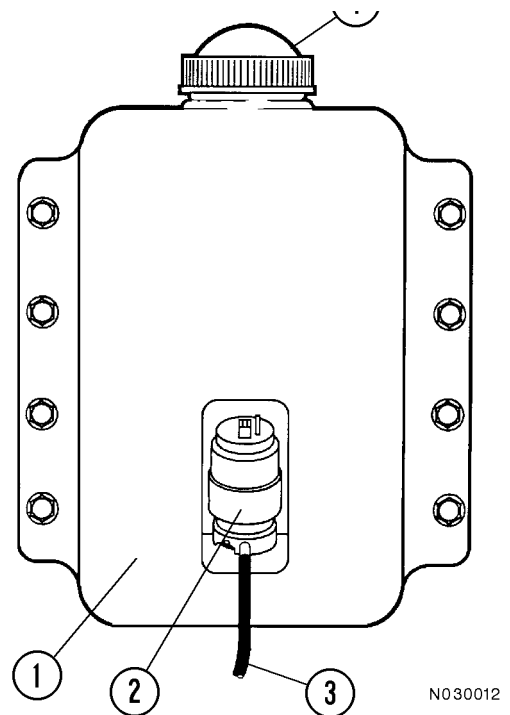

FIGURE 3-5. WINDSHIELD WASHER FLUID RESERVOIR AND PUMP
The windshield washer is mounted on the right side of the hydraulic components cabinet behind the cab. It has a 1 gal (3.8 liter) plastic reservoir (1, Figure 3-5) with a 24 Volt electric pump (2).